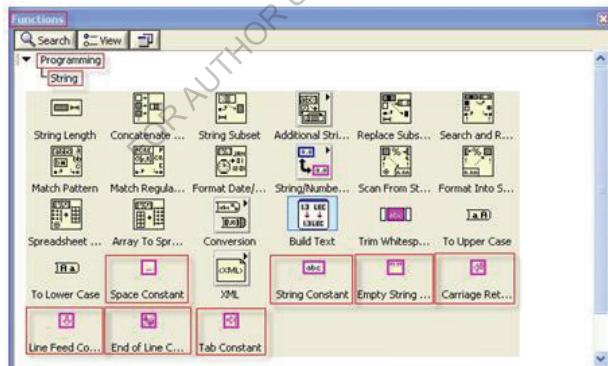

Figure 2.107: Insert Constant String
**String Constant** is insert in **Block Diagram of Functions Palette >> Programming >> String**, as shown in figure 2.107.